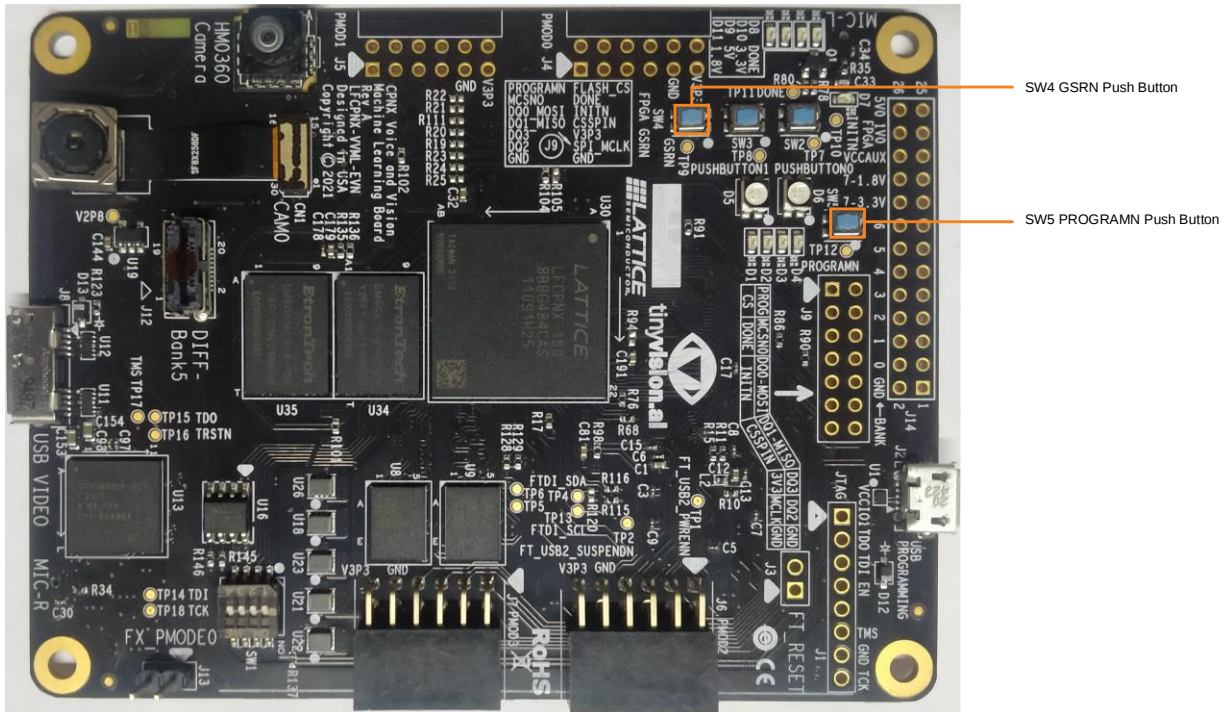

Figure 4.7. CertusPro-NX Flashing Switch – SW4 Push Button
5. Press the **SW5** push button switch before clicking the **Program** button, as shown in Figure 4.7. Hold it until you see the *Successful* message in the Radiant log window.